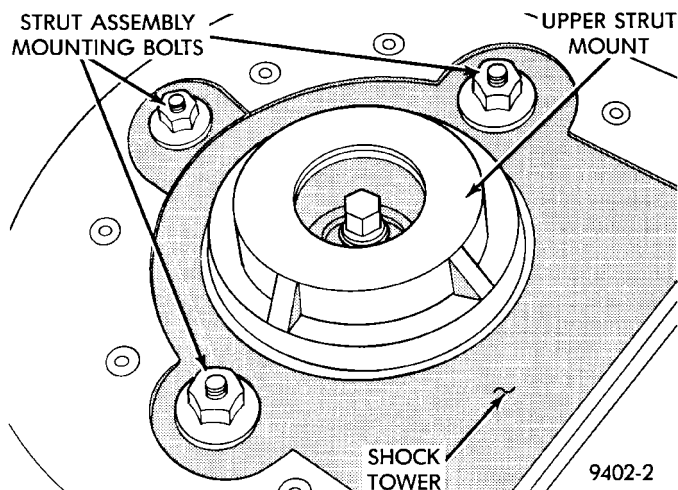

Fig. 13 Strut To Shock Tower Mounting
- (7) Remove the 3 nuts attaching the upper mount of the strut (Fig. 13) to the strut tower of the vehicle.
- (1) Install strut assembly into strut tower, aligning the 3 studs on the upper strut mount into the holes in shock tower. Install the 3 upper strut mount retaining nut and washer assemblies (Fig. 13). Torque the 3 nuts to 31 N·m (23 ft. lbs.).